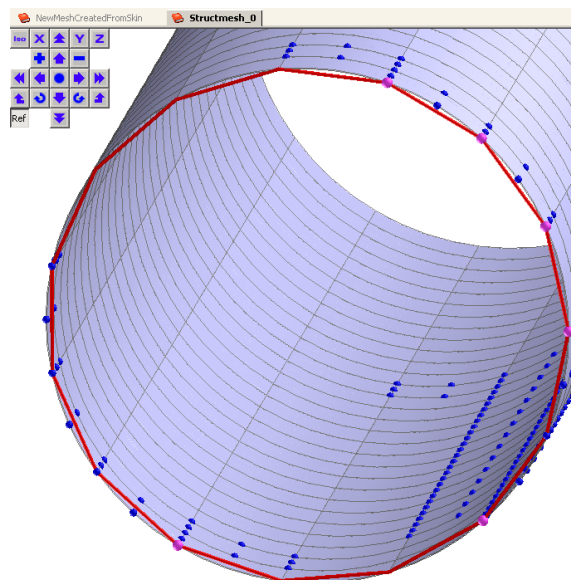

Figure 5.31 Accept Seam.
- Accept the seam by pressing: **Skin** → **Accept Seam**. See Figure 5.31. **Delete Selected Seams** and **Delete All Seams** could be used to remove seams already constructed. To select a seam for deletion, left-click on the seam while holding down the *shift-key*.